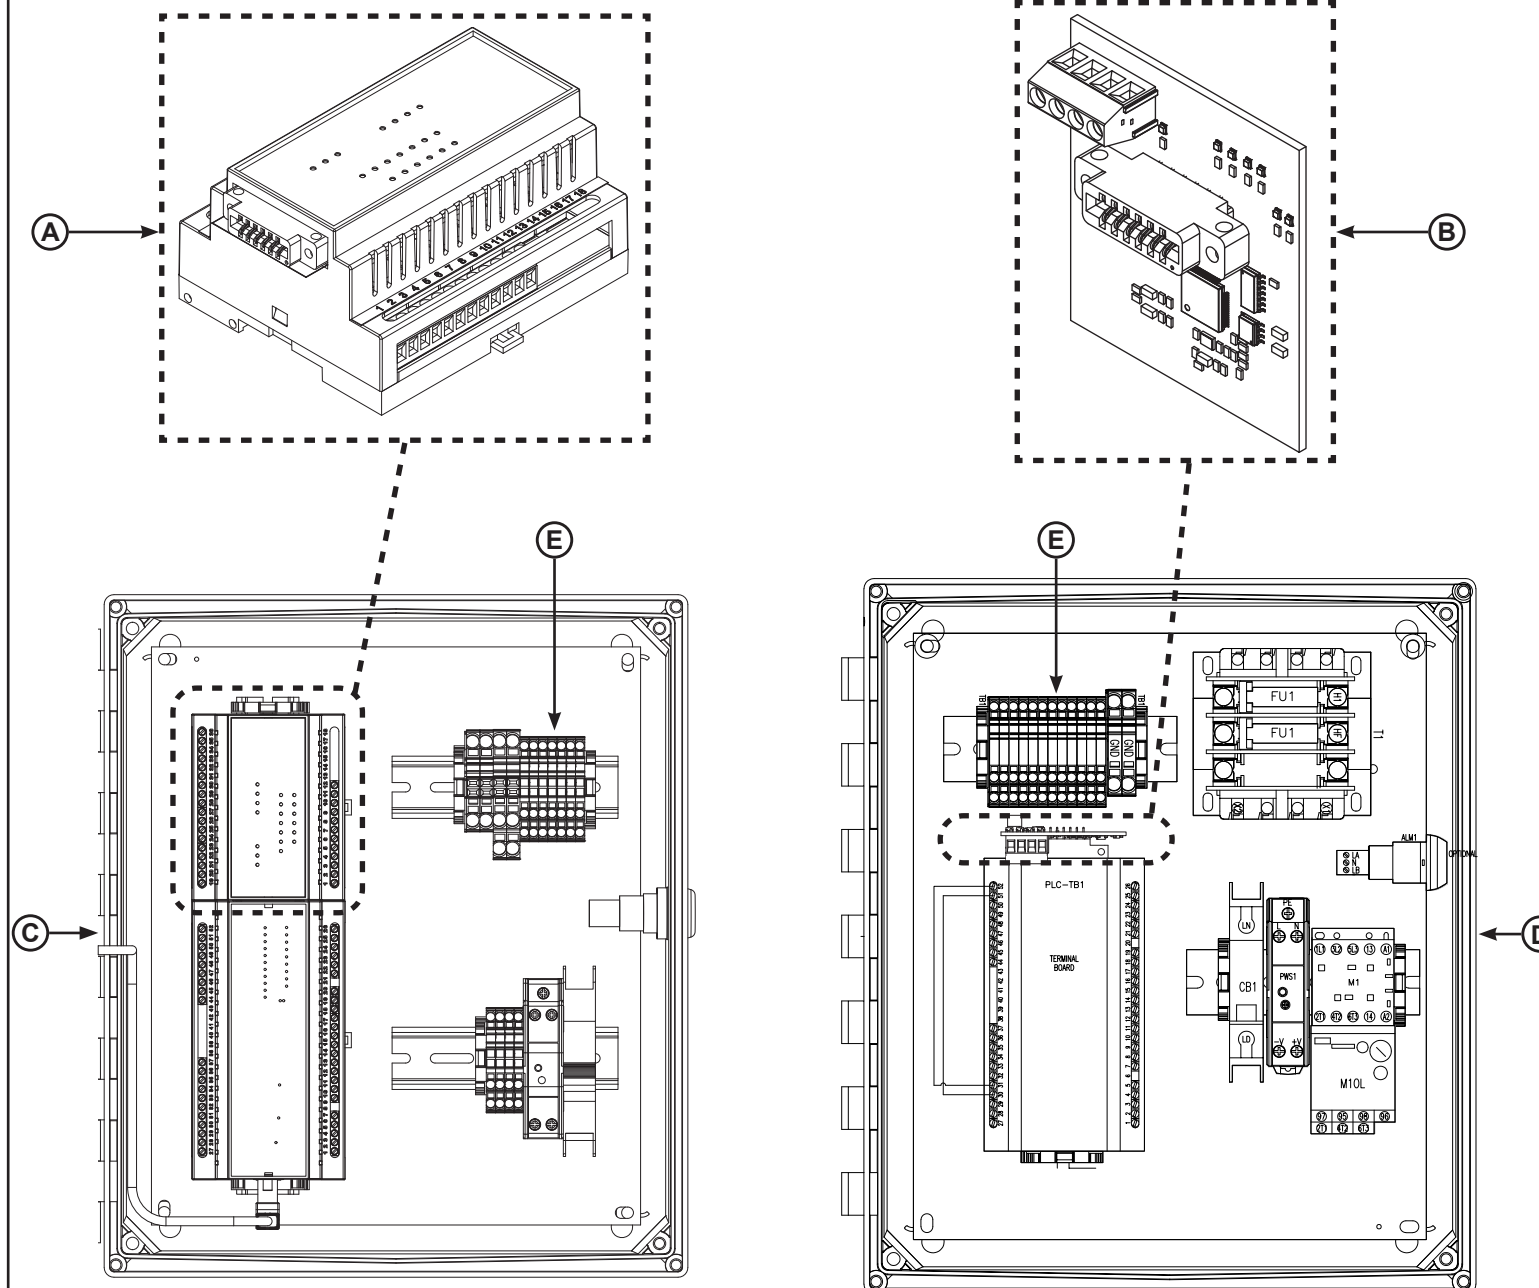

Figure 1
Expansion boards are used in the iDock controller to add I/O capacity for optional equipment: MyQ Dock Management sensors, loading dock lights, overhead door controls and etc. The Mini Expansion board (B) is used in iDock configurations that may not have the space required for the standard expansion board (A), shown in **Figure 1**. The Mini Expansion board is an input only module that allows the connection of MyQ Dock management sensors to provide analytics of loading dock operations.